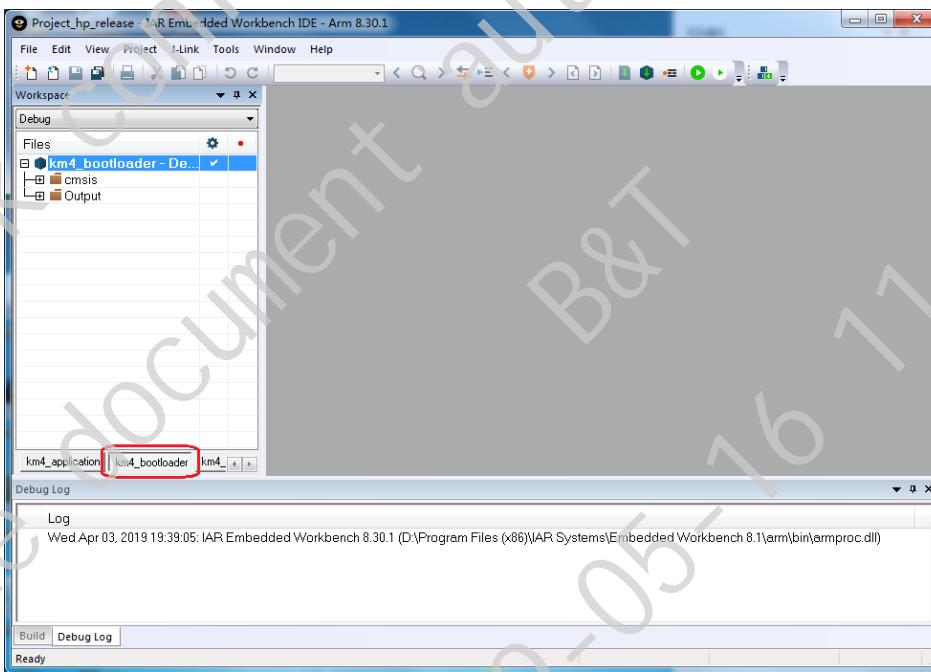

Fig 6-11 Switch to Target Project View
- Or switch to the target project view, as Fig 6-11 shows.